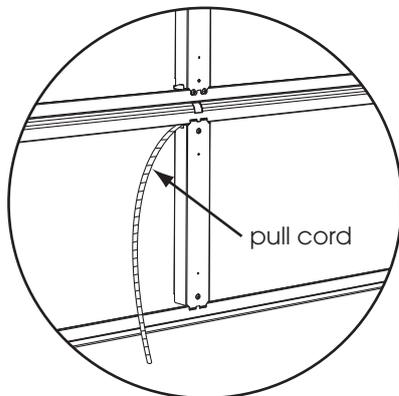

Fig: 3.8.3
- pass the cord through the white hinge pin on the bottom panel. Fig 3.8.3.